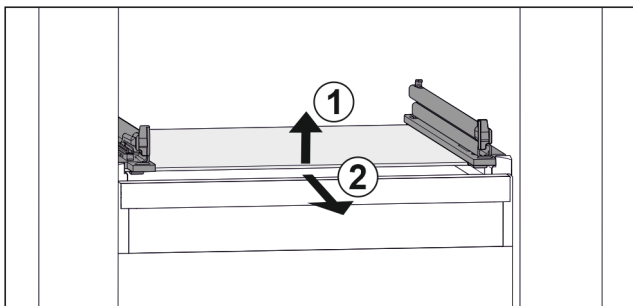

Fig. 21 Example illustration of glass shelf
- ▶ Lift glass shelf at the front. Fig. 21 (1)
- ▶ Take out glass shelf to the front. Fig. 21 (2)